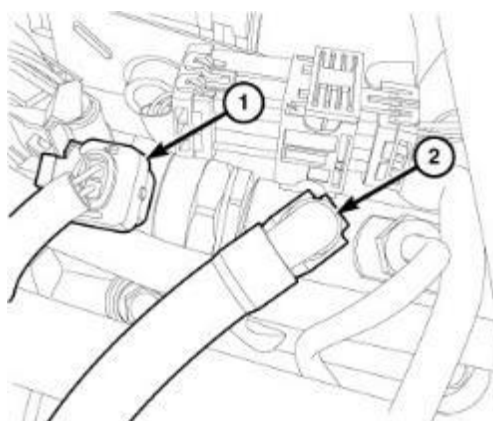

Figure 18 – Harness Connector and Return Line
13. Disconnect the fuel pressure solenoid wire harness connector (1) (Figure 18).
14. Disconnect the fuel rail return line (2) and position aside (Figure 18).